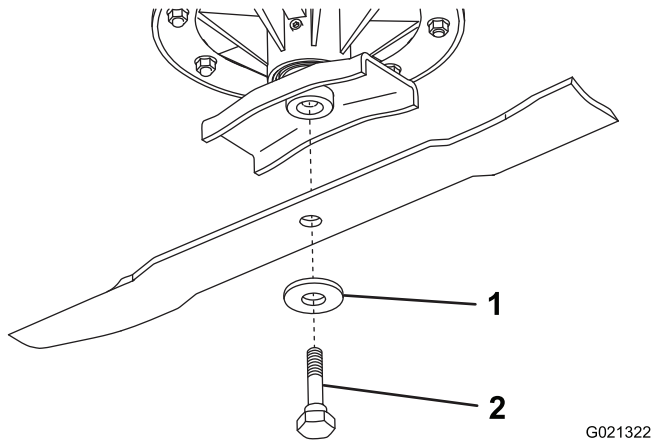

Figure 27
- Grasp the end of the blade using a rag or thickly padded glove. Remove the special screw, belleville washer and blade from spindle assembly (Figure 27).